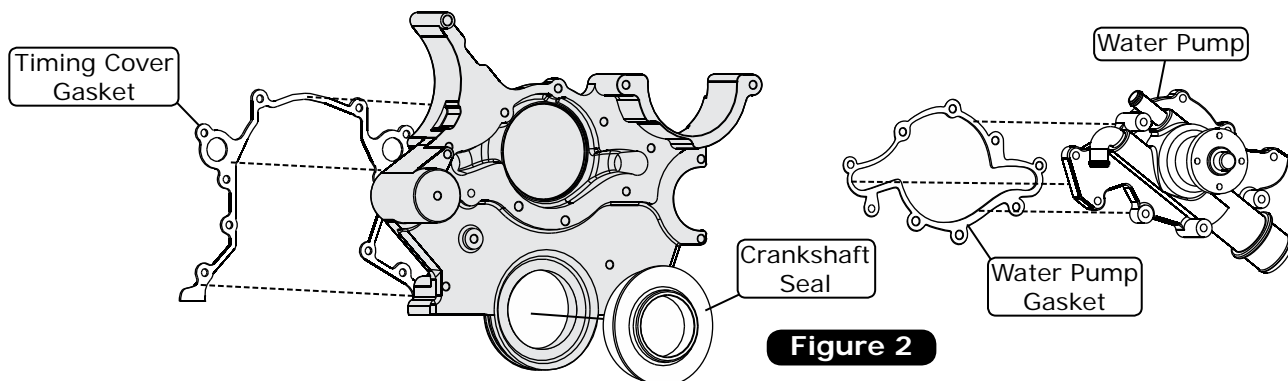

Figure 2
2. Using a suitable gasket adhesive, apply a bead of adhesive to the back side of the main bracket mounting surface. Install the timing cover gasket (supplied) as shown in Figure 2, below.
3. Apply a bead of gasket adhesive to the back side of the water pump mounting surface. Install the water pump gasket (supplied with the water pump) as shown in Figure 2, below.